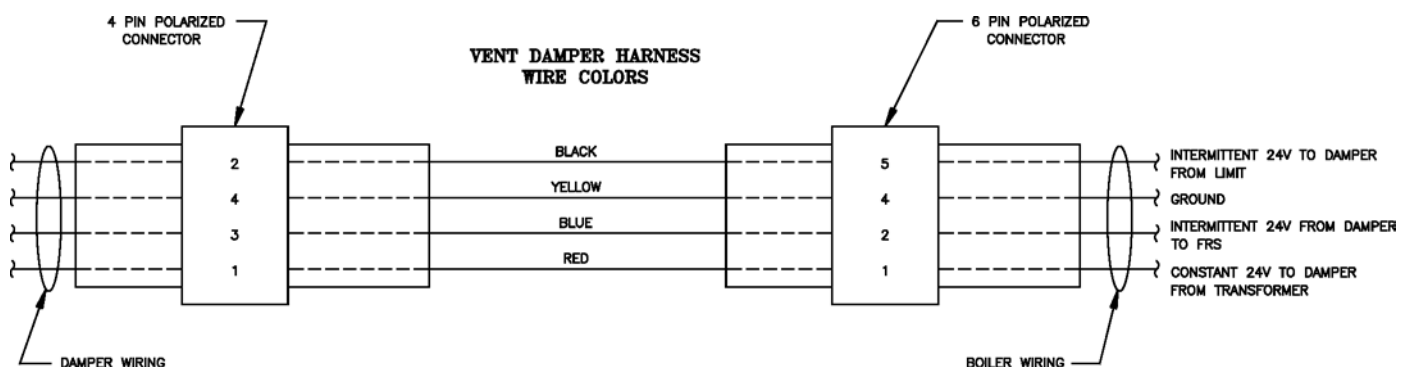

Figure 26: Vent Damper Schematic Wiring Diagram (806H - 810HE)
F. Vent Damper Sequence of Operation. See Figure 26 for schematic wiring diagram (806H - 810HE).